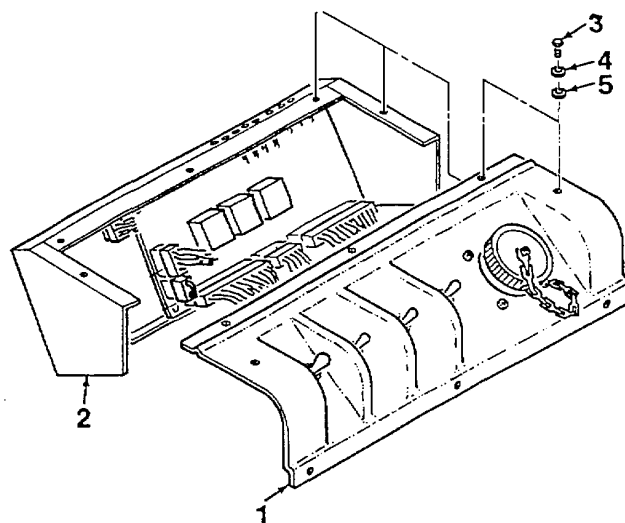

Figure 4-11. Switch Assembly (Sheet 1 of 3)
1. Remove front panel (1, Figure 4-11) from enclosure (2) by removing five screws (3), lockwashers (4), and washers (5).